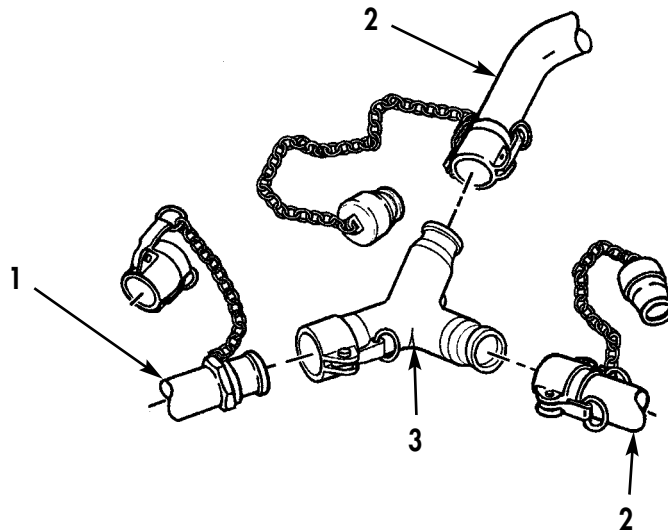

Figure 6. Hose Connections to Y-Fitting.
11. Remove plug and cap, and connect Y-fitting (Figure 6, Item 3) to 2 in. (51 mm) DIA x 10 ft (3 m) long discharge hose assembly (Figure 6, Item 1).
12. Remove two plugs and caps, and connect two 2 in. (51 mm) DIA x 25 ft (7.6 m) long discharge hose assemblies (Figure 6, Item 2) to Y-fitting (Figure 6, Item 3).